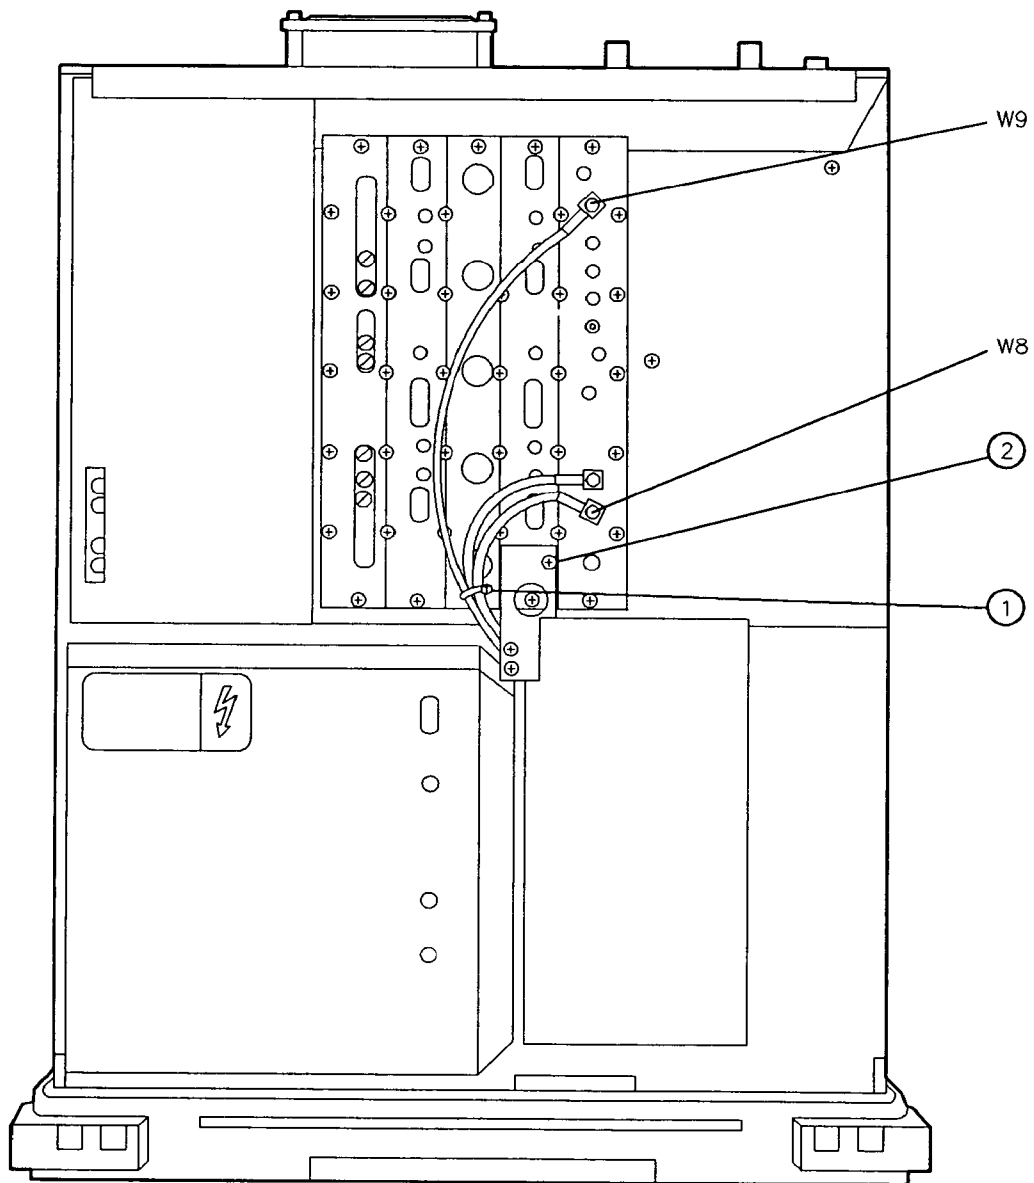

Figure 3-21. RF section Cables and Screw
22. Disconnect the cables listed below from the IF section's A9 Third Converter assembly. See Figure 3-21. Use a piece of tape to label the cables so that you can properly reconnect them during reassembly.